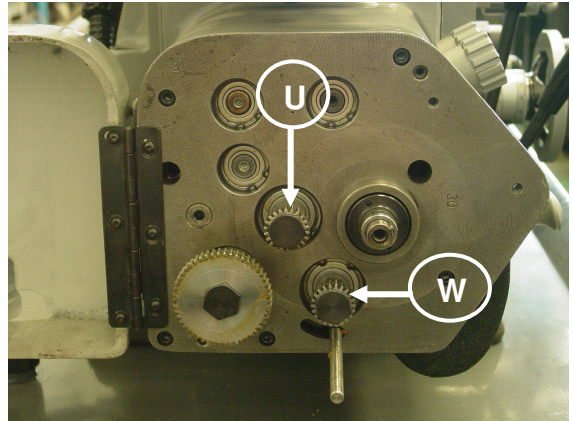
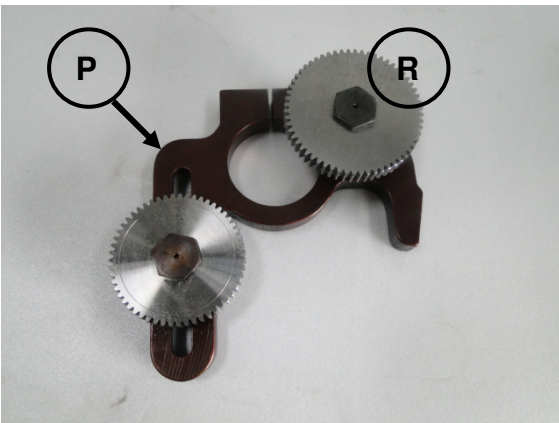
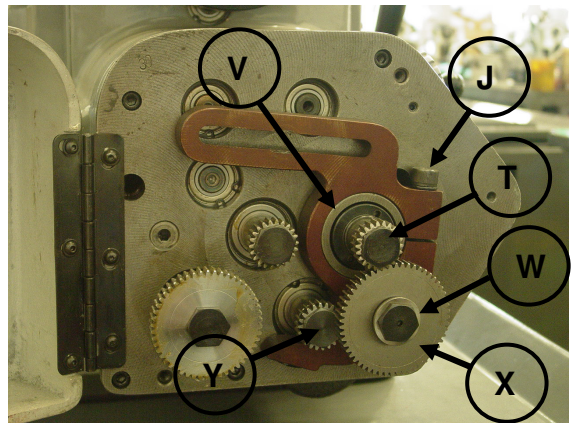

Figure 55-Threading Gearbox
Figure 56-Change Gear Bracket
Figure 57- Mounting Change Gear Bracket
2. On metric side of change gear bracket "P" (Figure 56) mount "Idler Gear" "R" (Figure 56). Do not tighten bolt "S" fully.
4. Mount change gear bracket assembly, Figure 56, on pivot post "V" (Figure 57), Do not tighten bracket bolt "U" (Figure 55) fully.
5. Remove "First Gear" "U" (Figure 55), and replace bolt. Do not misplace key.
6. Mount "First Gear on Screw" "T" (Figure 57).
7. If thread chart specifies number of teeth in "Tumbler Gear" to be other than 22 teeth, remove gear "Y" (Figure 57) and replace with specified gear.
8. Adjust "Idler Gear" "X" (Figure 57) with 0.003"-0.004" backlash between it and "First Gear on Screw" "T" (Figure 57). Use plastic shim stock to help determine backlash. Tighten bolt "W" (Figure 57).
9. Pivot bracket to obtain 0.003"-0.004" backlash between "Idler gear" "X" (Figure 57) and "Tumbler Gear" "Y" (Figure 57). Tighten bracket bolt "J" (Figure 57).
**(b) When disassembling setup, remount 22 tooth "Tumbler Gear" "W" (Figure 55), and 22 tooth "First Gear" "U" (Figure 55).**